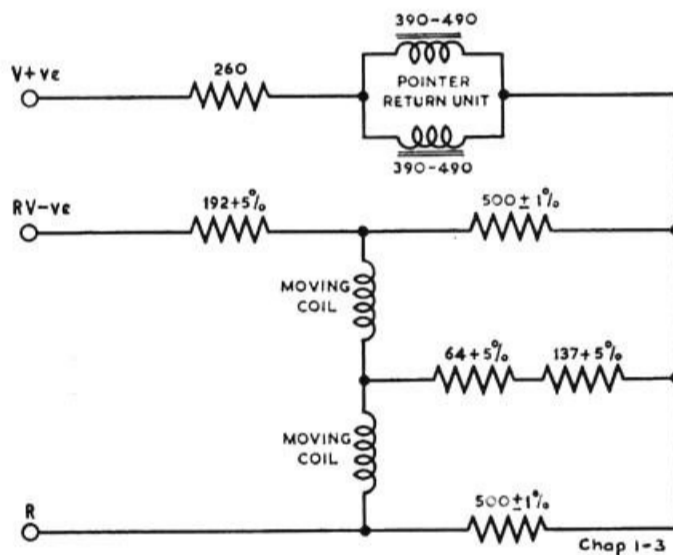

Fig. 2. Circuit diagram
2. The circuit diagram is shown in fig. 2 and connection to the indicator is made via three terminal screws.
2. The circuit diagram is shown in *fig. 2* and connections are made via three terminal screws V+, RV- and R.